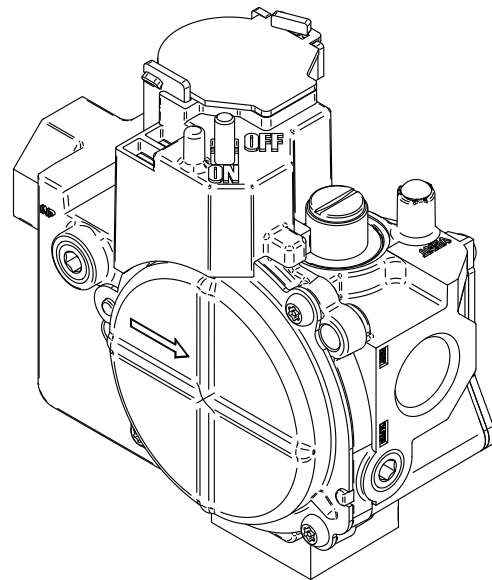

Fig. 41 - Gas Control Valve
- Remove manifold pressure tap plug from gas valve. (See Fig. 41.)